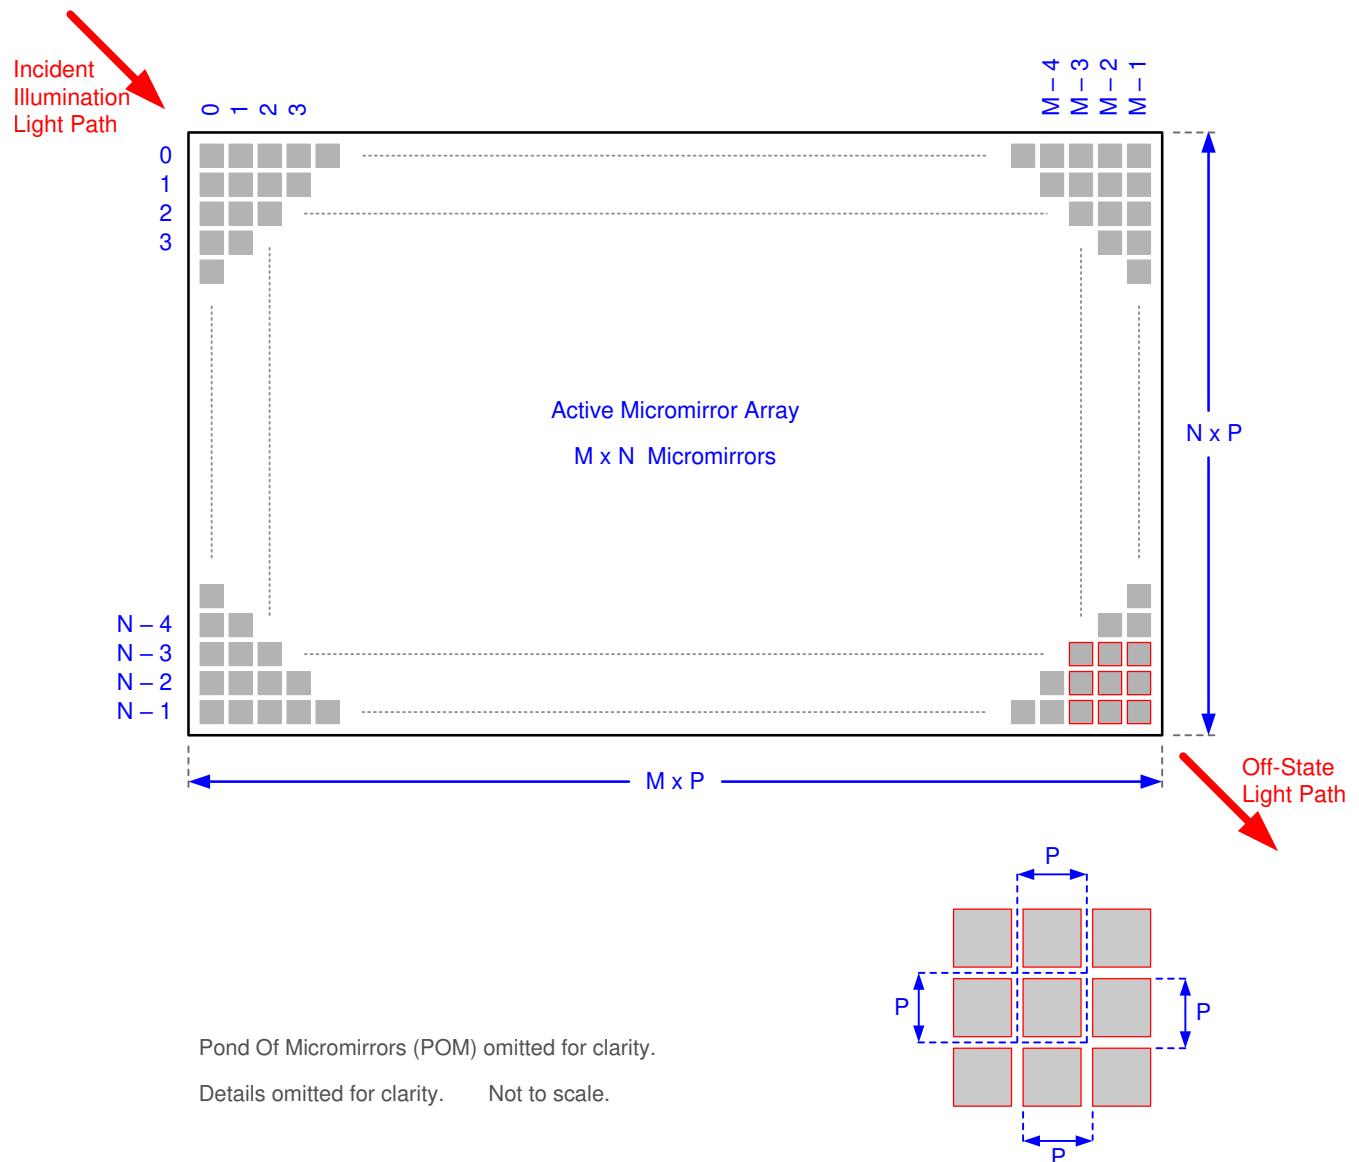

**图 6-9. System Mounting Interface Loads**
(1) The load must be uniformly applied in the corresponding areas shown in Figure 6-9.